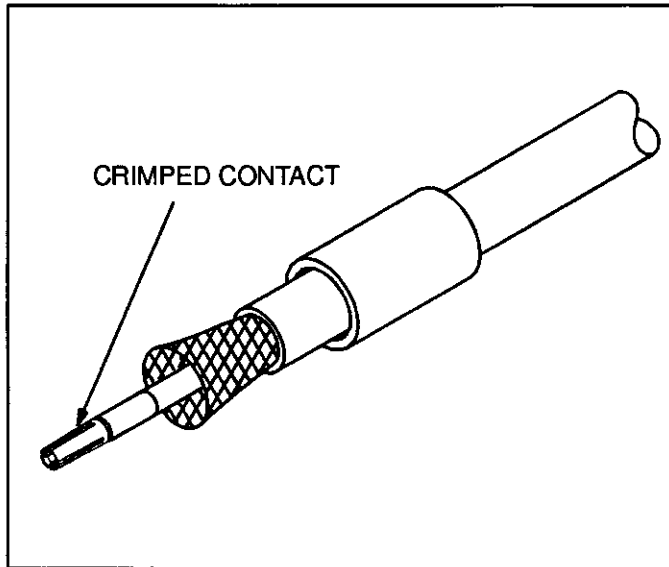

Fig. 4
2. Position contact onto center conductor; then crimp the contact using hand tool 220190-1 (fitted with the appropriate die assembly). See Figure 4.